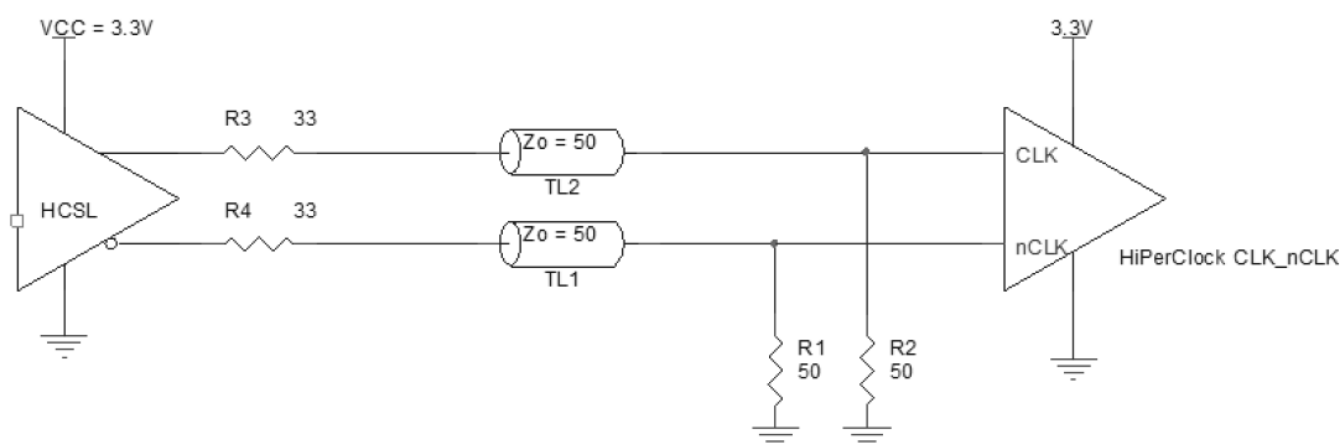

Figure 15. HCSL Output Termination [2]
2. 3.3V is shown in Figure 15, but this drawing applies to both 2.5V and 1.8V applications.